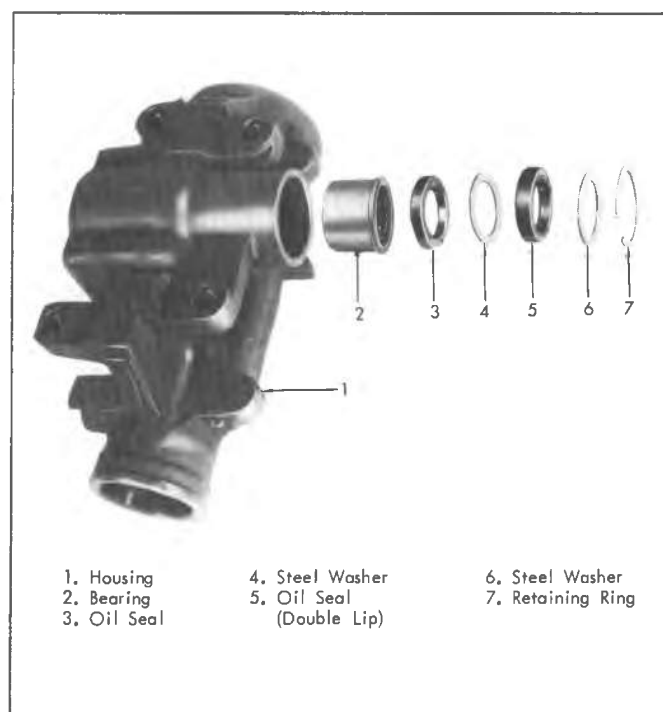

Fig. 3B-52--Pitman Shaft Bearing and Seals
1. If pitman shaft seals **ONLY** are to be replaced, remove the seal retaining ring with Internal Pliers J-4245 and remove outer steel washer. Pry out the outer seal. Remove the inner steel washer, then pry out the inner seal (fig. 3B-52). Discard seals.
1. If the pitman shaft needle bearing was removed, place bearing Installer Tool J-22407 onto Handle J-8092. Place needle bearing (shouldered end first) on to Tool J-22407. Press bearing into gear housing until Tool bottoms on housing. The bearing is now correctly positioned (fig. 3B-53).